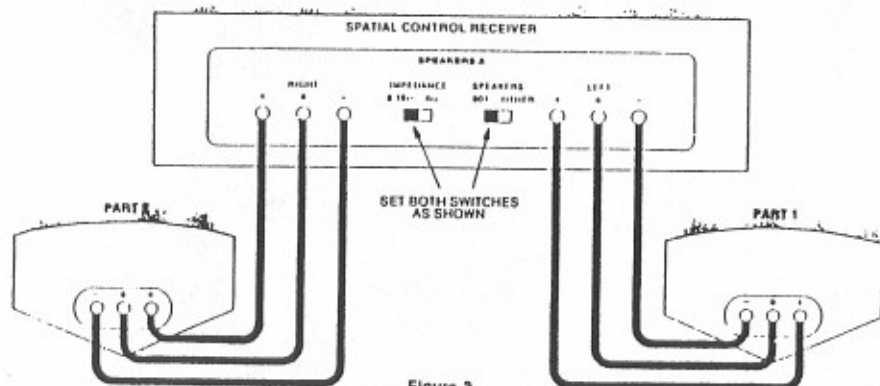

Figure 3
- Connect the (-) terminal of the speaker to the (-) terminal of the Speakers A output of the Receiver². Remove the plastic sleeve over the center speaker terminal and use the appropriate metric or English knurled speaker nuts and washers provided in the accessory pack. See Figure 3.
Set the impedance switches to 8-16 ohms for all 901 loudspeakers. For other loudspeakers, set the switches for the impedance of the speaker system. Both Speakers A and B have individual 8-16 OHM/4 OHM Switches. See Figure 3.
This switch activates the internal 901 Series IV active equalizer. Set the switch to the "901" position for BOSE 901 Series III and IV loudspeakers. (See Figure 3.) If you now own 901 Series III or IV speakers, the equalizer originally provided with your speakers is no longer required.